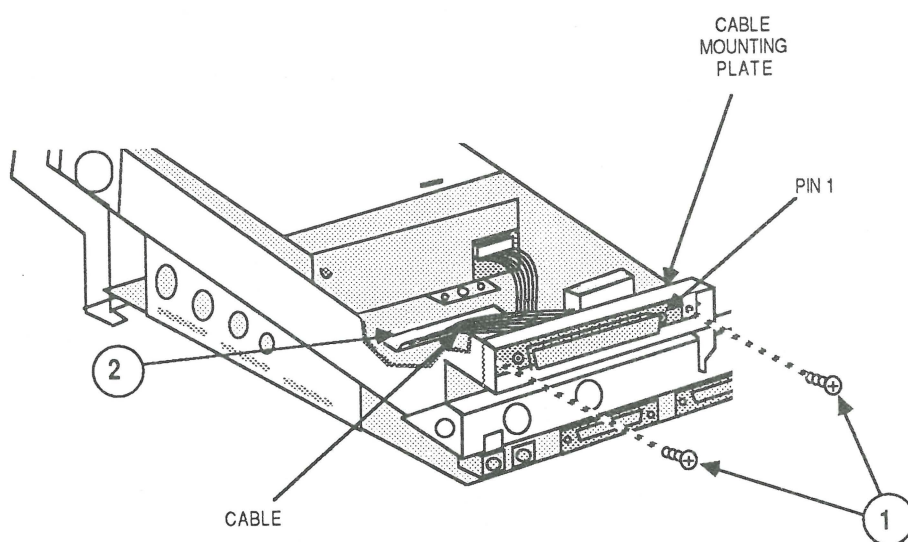

FIGURE 8
- IPL.13 Macintosh Display Card 8/24 (Figure 8)
6. Stand the Macintosh SE upright so that the back is toward you. Remove the two Phillips screws (Figure 8, #1) that secure the cable mounting plate.
7. Pull the cable through the rectangular hole in the chassis bottom (Figure 8, #2) and out of the computer.